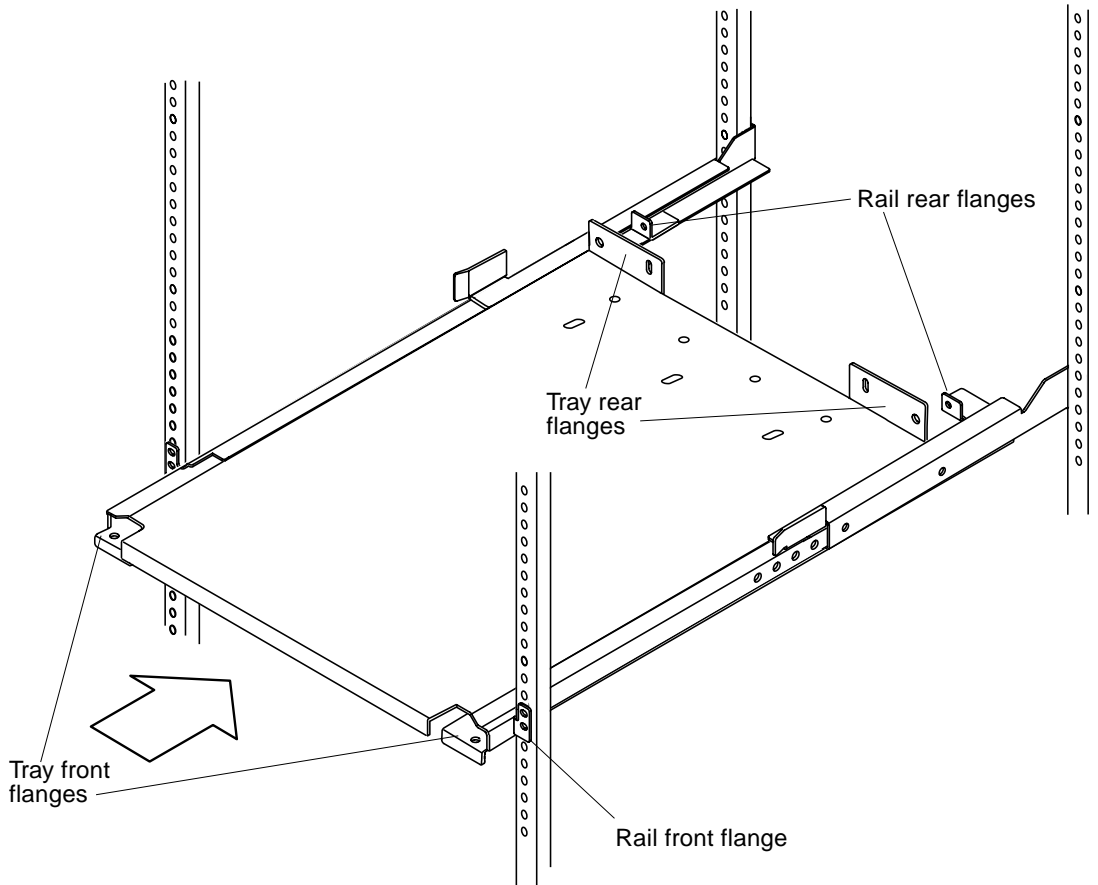

FIGURE 6 Assembling the Rackmounting Tray
6. Slide the tray into the installed rails (FIGURE 6).
Gripping the tray from the front, insert and slide the tray along the inside of the rails until the front and rear flanges stop the tray (FIGURE 6).